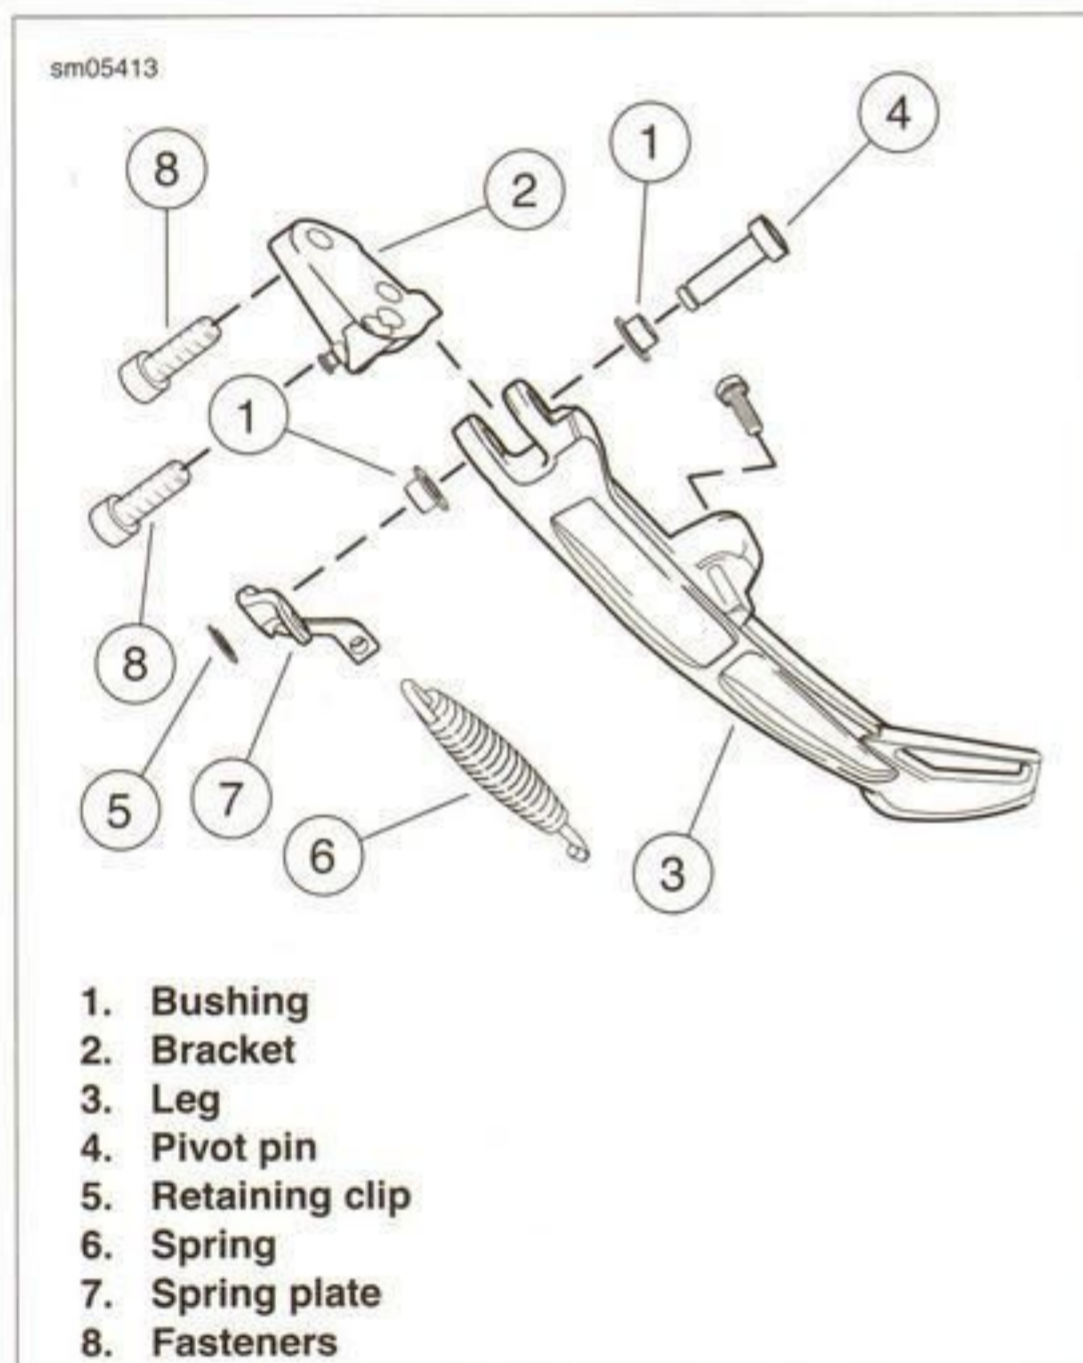

Figure 2-171. Sidestand Assembly
1. See Figure 2-171. Install the bushings (1) in the sidestand bracket (2) and fit the leg (3).
2. Slide in the pivot pin (4) and secure with the retaining clip (5).
3. Hook the spring (6) in the leg and fit the spring plate (7) to the bracket pivot on the bracket.